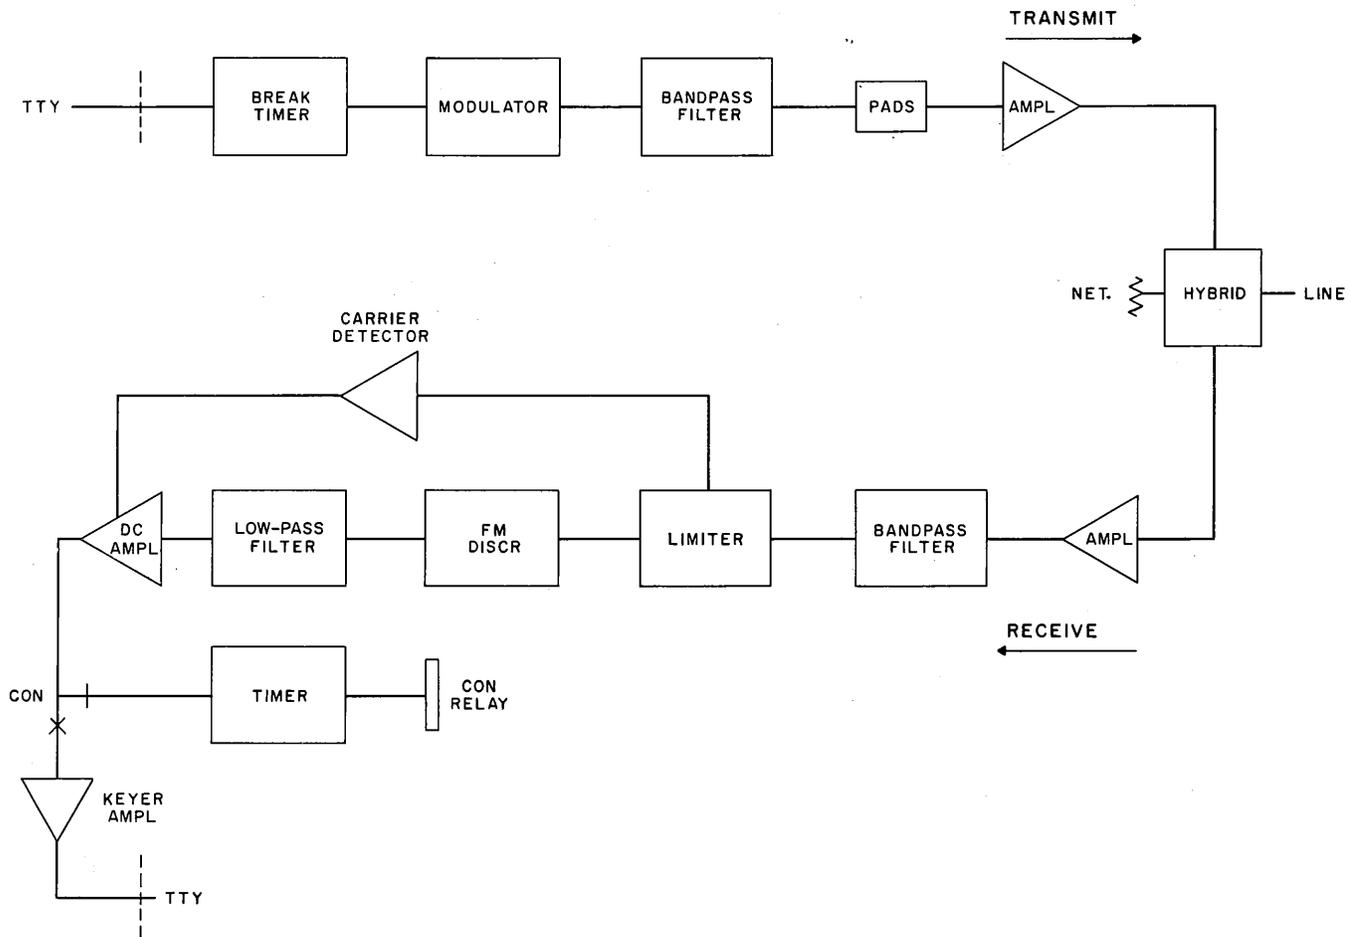

Fig. 5—Block Diagram of Data Sets 101A and 101B
1.09 Fig. 5 is a simplified block diagram of Data Set 101A or 101B.